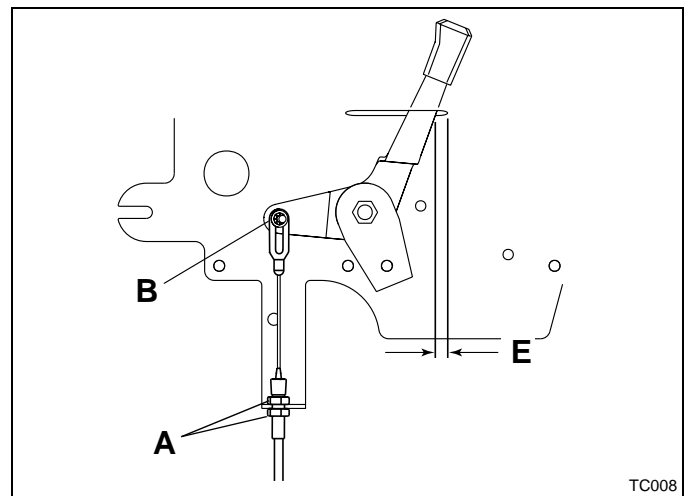

Figure 3H
1. Position throttle lever in its high speed position so that 1/16 - 1/4 in. (2-6 mm) gap exists between lever and panel. See E- Figure 3H.